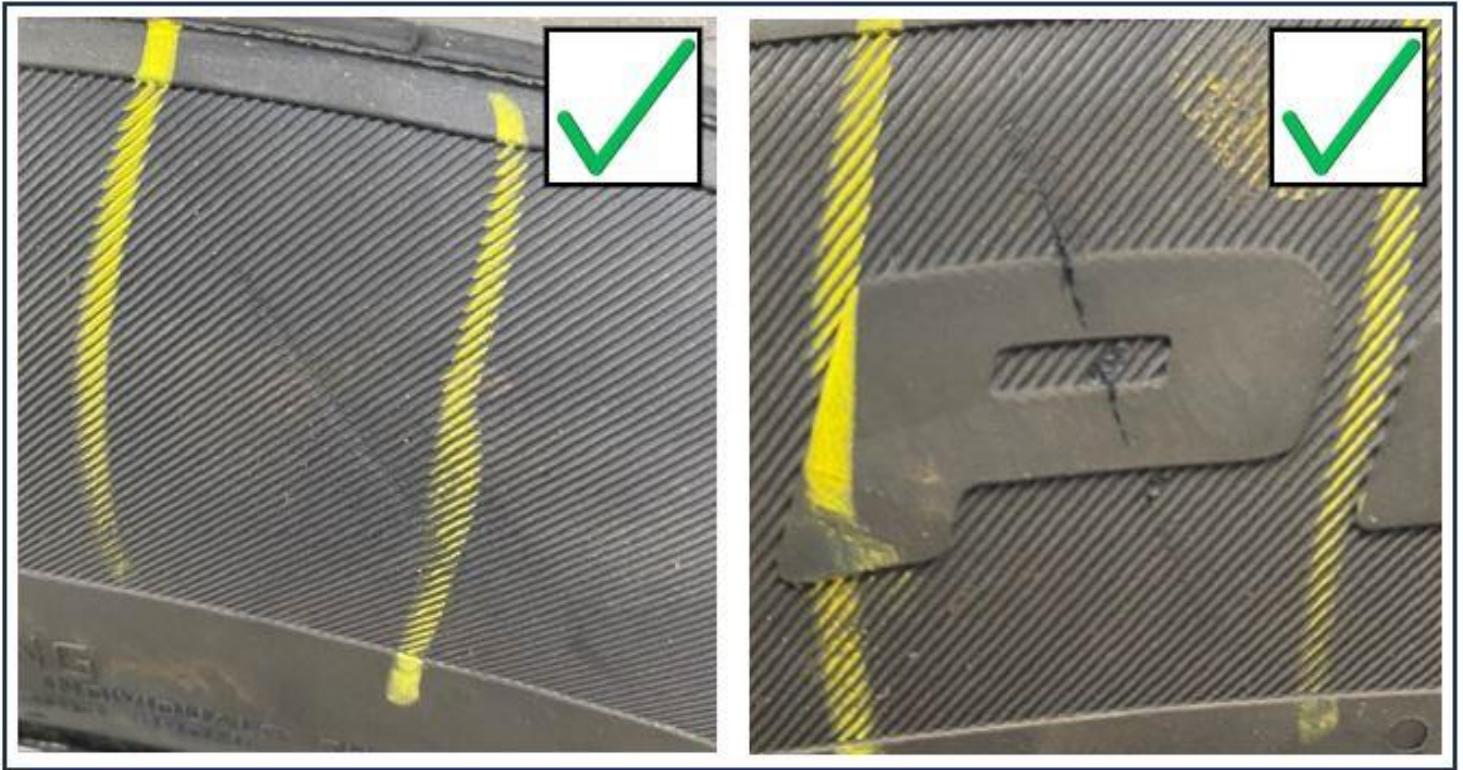

Figure 2: Superficial marks on sidewall with a depth of less than 1 mm (do not replace tires)
- b. If only **superficial marks or cuts** with a depth of **less than 1 mm** are present (**Figure 2**): **Do not replace tires; End measure.**